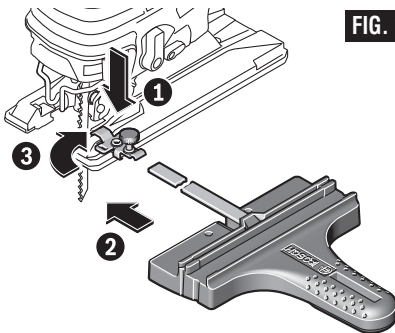

FIG. 11
3. Place lock knob(s) on proper side of clamp(s) and securely tighten lock knob(s) on the clamp(s) (Fig. 11).
3. Securely tighten lock knob(s) on the clamp(s) (Fig. 11).
- 8. Place lock knob(s) on proper side of clamp(s) and securely tighten lock knob(s) on the clamp(s) (Fig. 11).